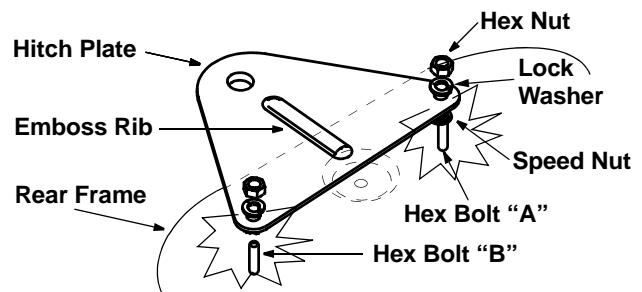

Figure 7
- Pivot hitch plate, align the hole on the hitch plate with the right hand hole on rear frame and insert hex bolt "B". See Figure 7.